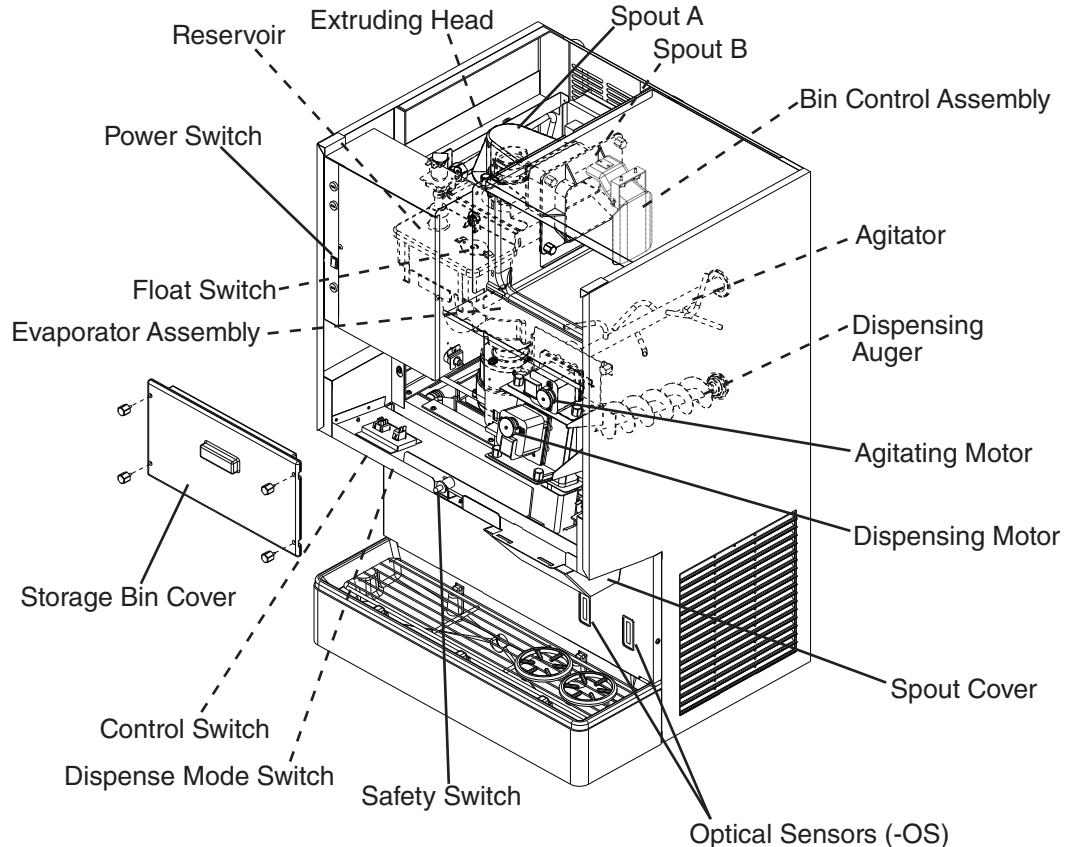

Fig. 9
- 5) Remove the storage bin cover. Remove spout B, then remove spout A. See Fig. 9.
- 9) In bad or severe water conditions, clean the float switch assembly as described below. See Fig. 9. Otherwise, continue to step 10.
- 4) Remove the motor bracket thumbscrews, first from the vertical plane and then from the horizontal plane. While holding on to the corresponding agitator or auger, move the agitating motor or the dispensing motor towards you. Remove the agitator and the dispensing auger from the storage bin. See Fig. 9.